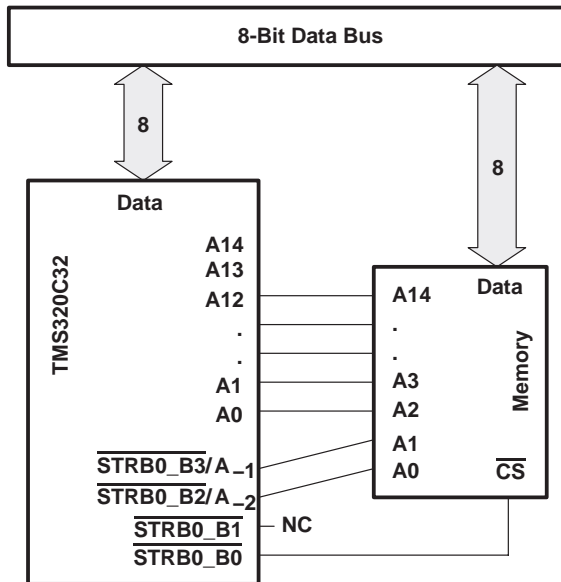

Figure 2. C32 With 8-Bit-Wide External Memory
- For 8-bit-wide physical memory, the $\overline{\text{STRBx_B2/A_2}}$ and $\overline{\text{STRBx_B3/A_1}}$ pins function as address pins (least significant address bits) and the $\overline{\text{STRBx_B0}}$ pin functions as a byte-enable (chip-select) pin. $\overline{\text{STRBx_B1}}$ is unused. See Figure 2.